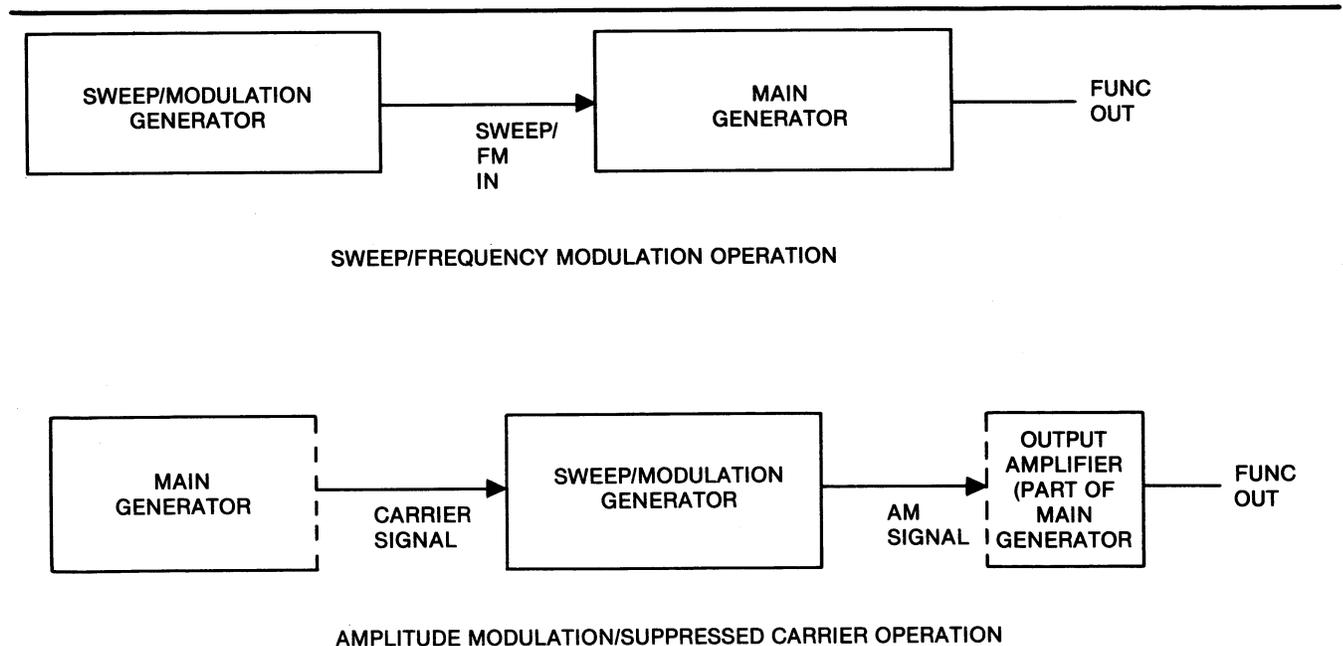

Figure 4-1. Model 193 Overall Block Diagram
While each generator can operate independently, they can be interconnected for frequency sweep, frequency modulation (FM), double side band amplitude modulation, and suppressed carrier amplitude modulation (refer to figure 4-1). For sweep and FM, the sweep/modulation generator varies the frequency of the main generator. In AM, both suppressed carrier and double side band, the main generator supplies a carrier signal that mixes, on the sweep/modulation generator board, with the modulating signal, created by the sweep/modulation generator, to produce the amplitude modulated signal which feeds back to the main generator output amplifier.